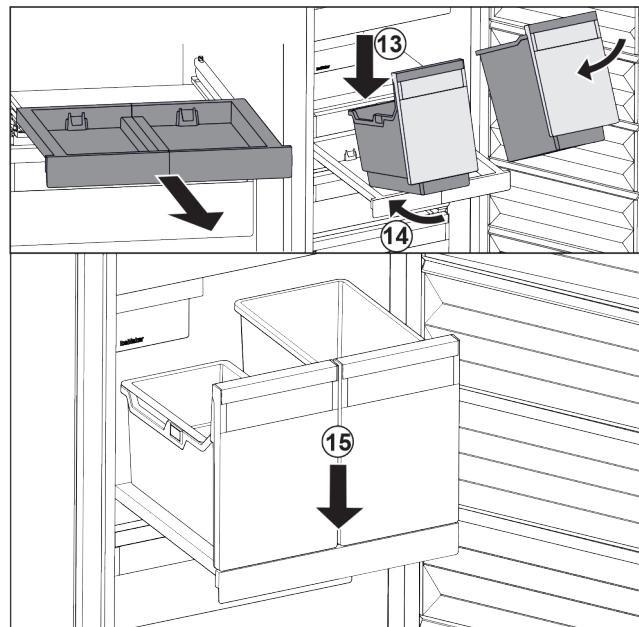

Fig. 102
- ▶ Place the container at an angle on the pull-out board. *Fig. 102 (13)*
- ▶ Slide the container to the back at an angle. *Fig. 102 (14)*
- ▶ Place container in the front. *Fig. 102 (15)*